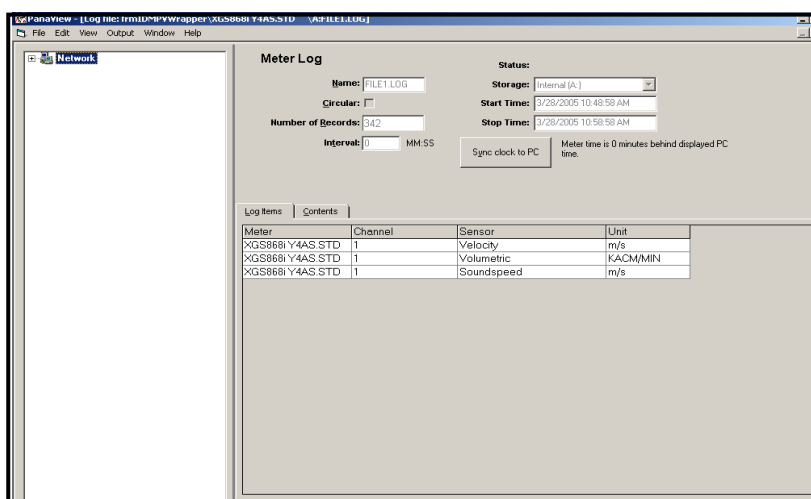

Figure 20: Data Window for an Individual Meter Log
2. Double-click on the desired log. A window opens for the individual log, as shown in *Figure 20*.
- Click on the *Log Items* tab (see *Figure 20*) for a list of the parameters specified for logging.